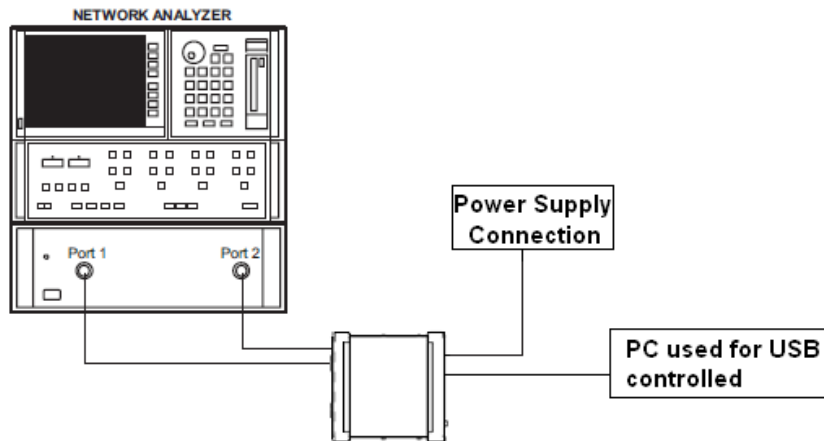

Figure 4-1 Connection to perform a quick check
- 1 Connect the common port of the switch to Port 1 of the network analyzer and one of the outer RF ports to Port 2 of the network analyzer as illustrated in **Figure 4-1**.